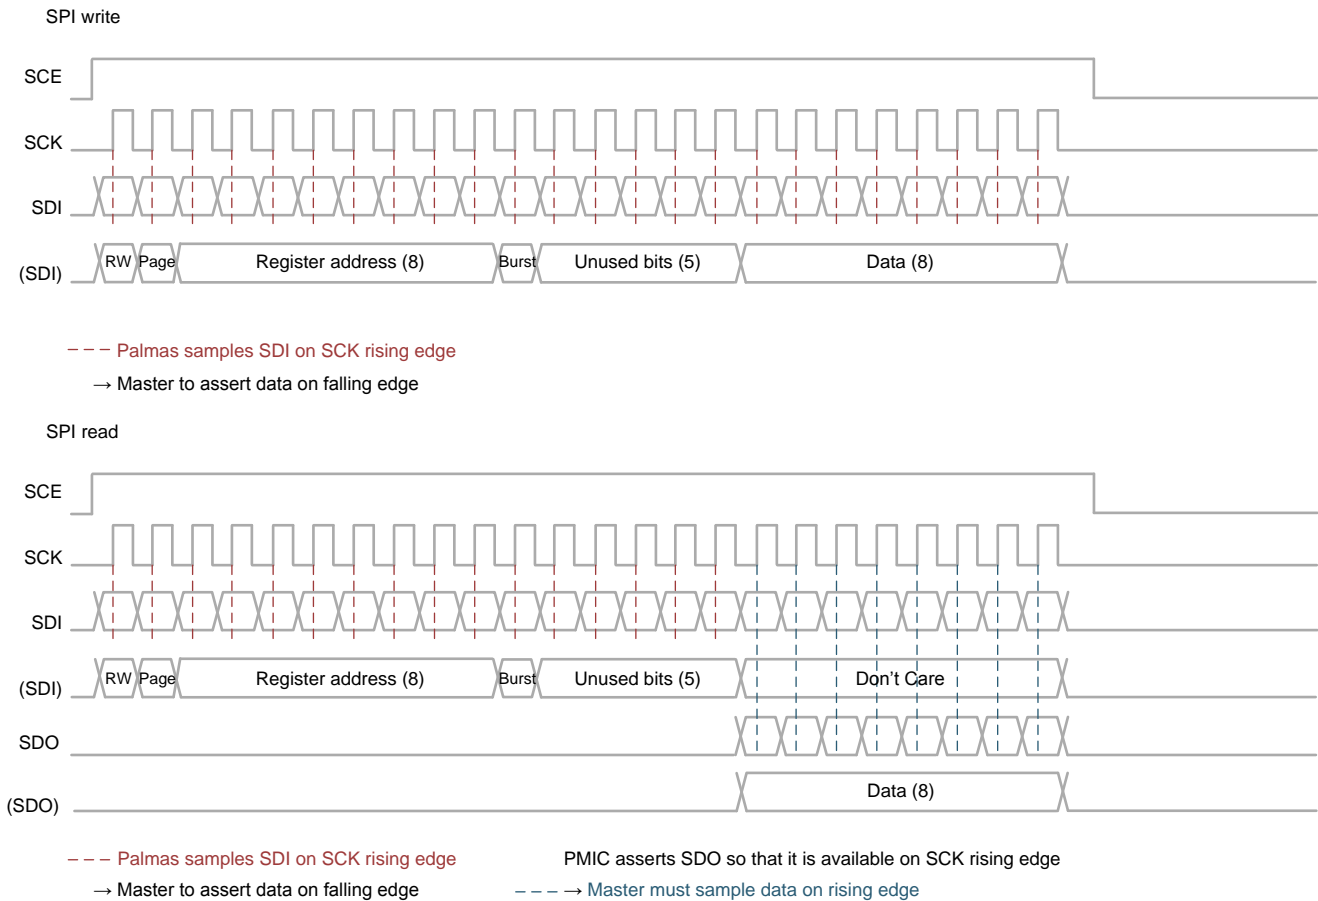
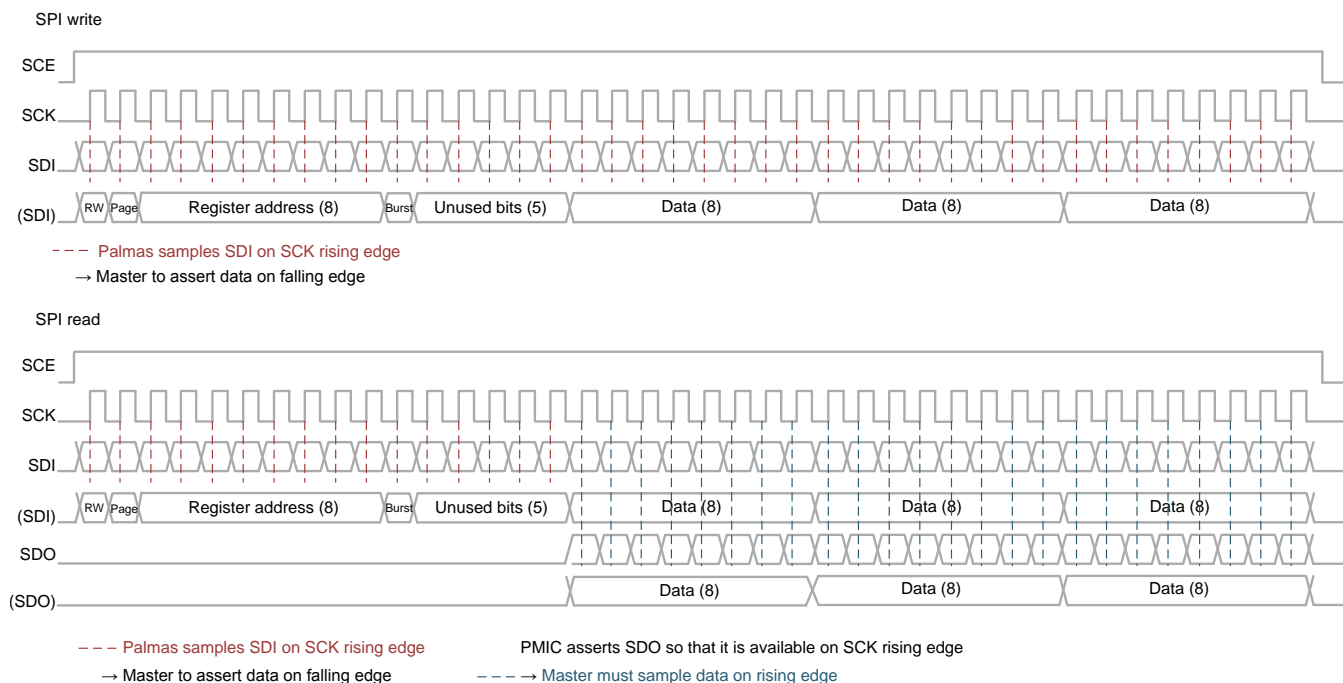

Figure 5-21. SPI Single Read and Write Access
Figure 5-22. SPI Burst Read and Write Access
- This mode consists of fetching and storing one single data location. The protocol is shown in Figure 5-21.
- This mode consists of fetching and storing several data at contiguous locations. The protocol is shown in Figure 5-22.
Figure 5-21 shows the SPI protocol for a single read and write access. Figure 5-22 shows the SPI protocol for a burst read and write access.